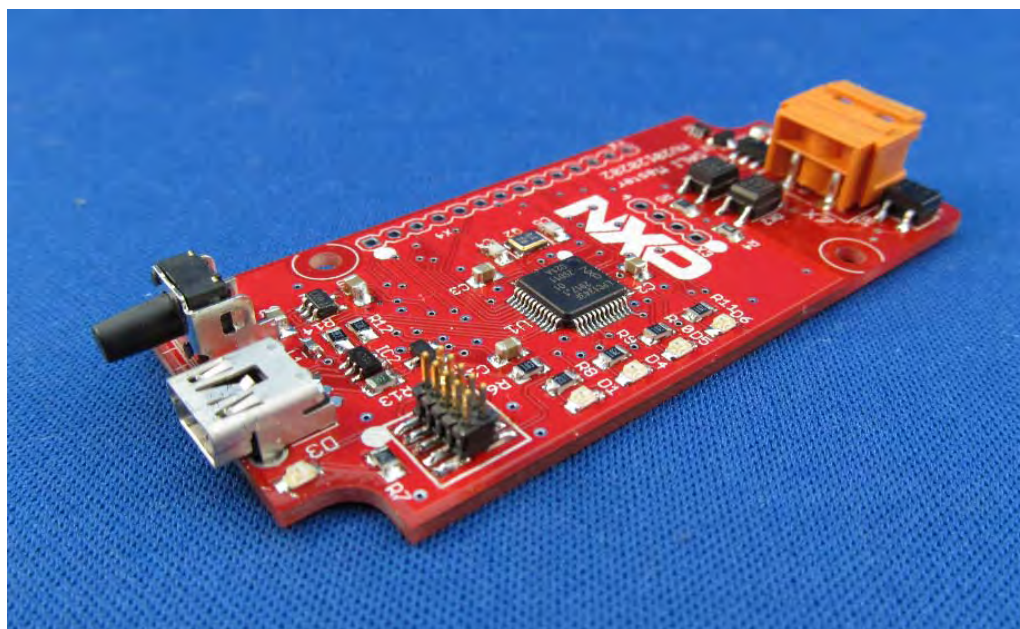

Fig 1. LPC1343 DALI to USB Master demo board
1. LPC1343 DALI to USB master as shown in Fig 1.